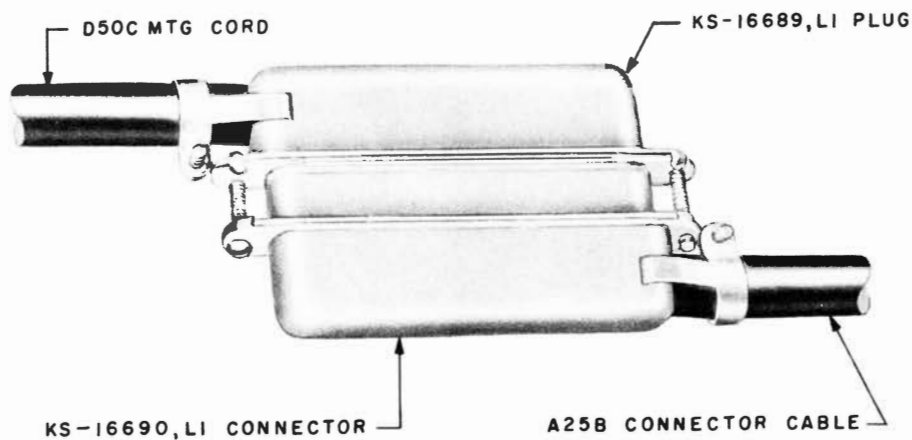

Fig. 7 - D50C Mounting Cord Joined
3.11 Fig. 7 illustrates how the plug joins with an A25B connector cable.